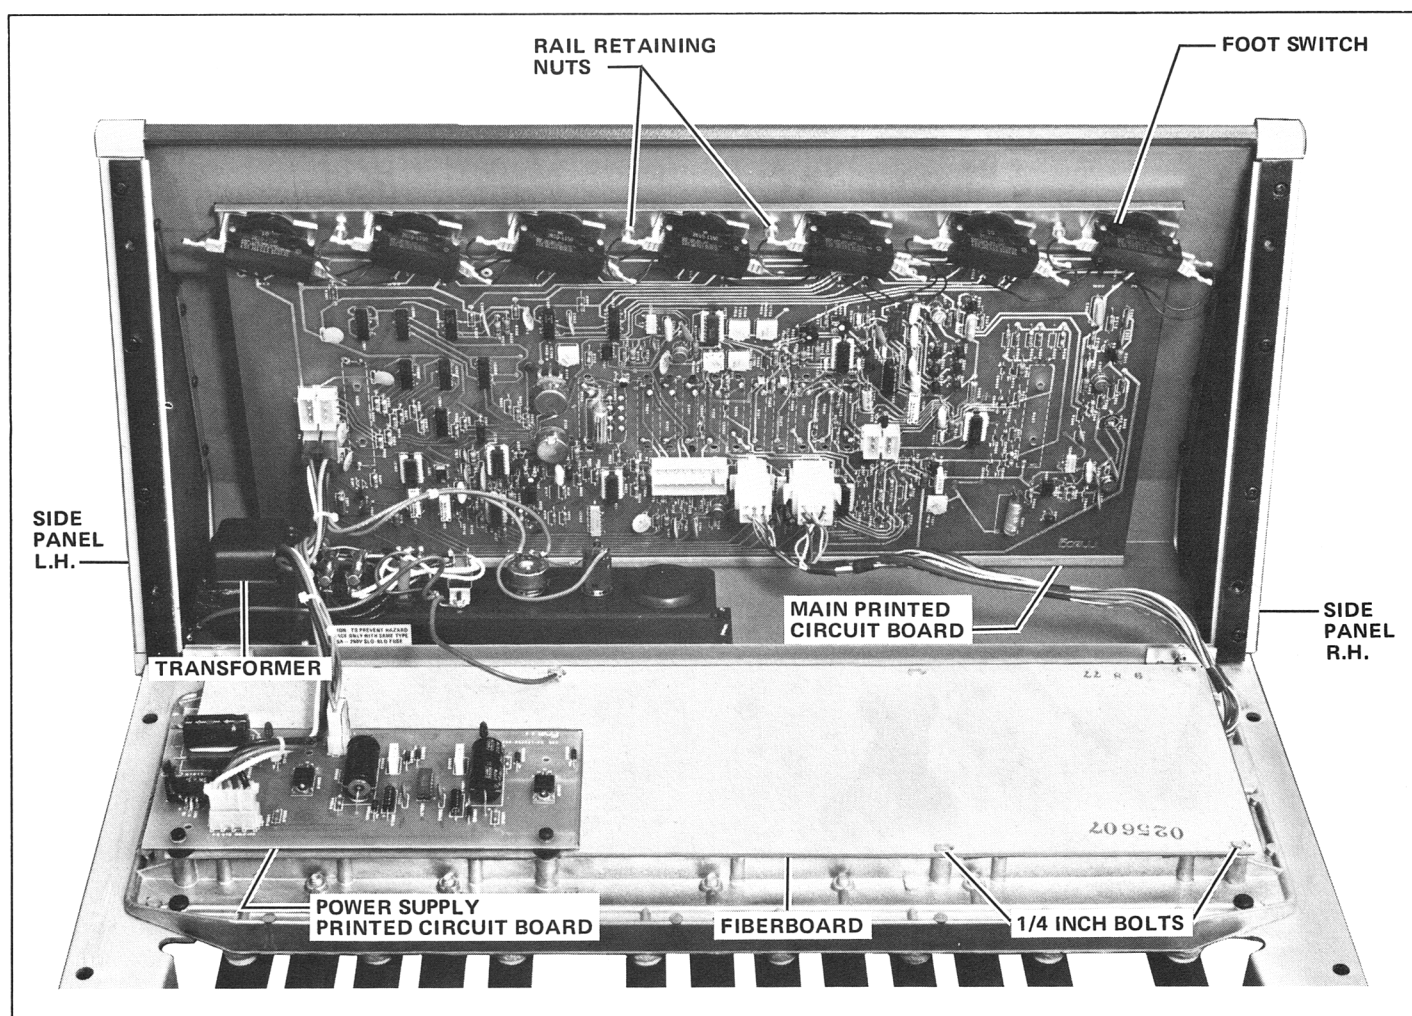

FIGURE 3-1 TAURUS WITH FOOT PEDAL AND SHELL HOUSING SEPARATED
c) With foot pedal and shell housing now separated, open unit and lean both parts together to form a "L" shape as shown on Figure 3-1.
3.2 PRINTED CIRCUIT BOARD DISASSEMBLY (Figure 3-1)
3.4 FOOT PEDAL CONTACT REMOVAL (Figure 3-1 and 3-2)